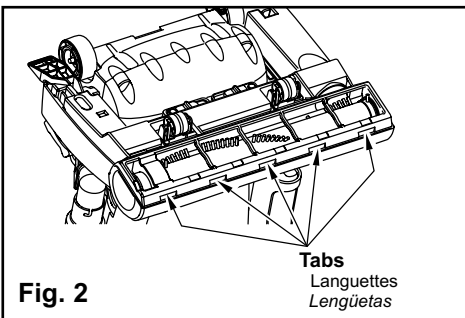

Fig. 2
- **Reinstall lower plate by hooking front end of lower plate into slots on front of nozzle housing. (Fig. 2)**